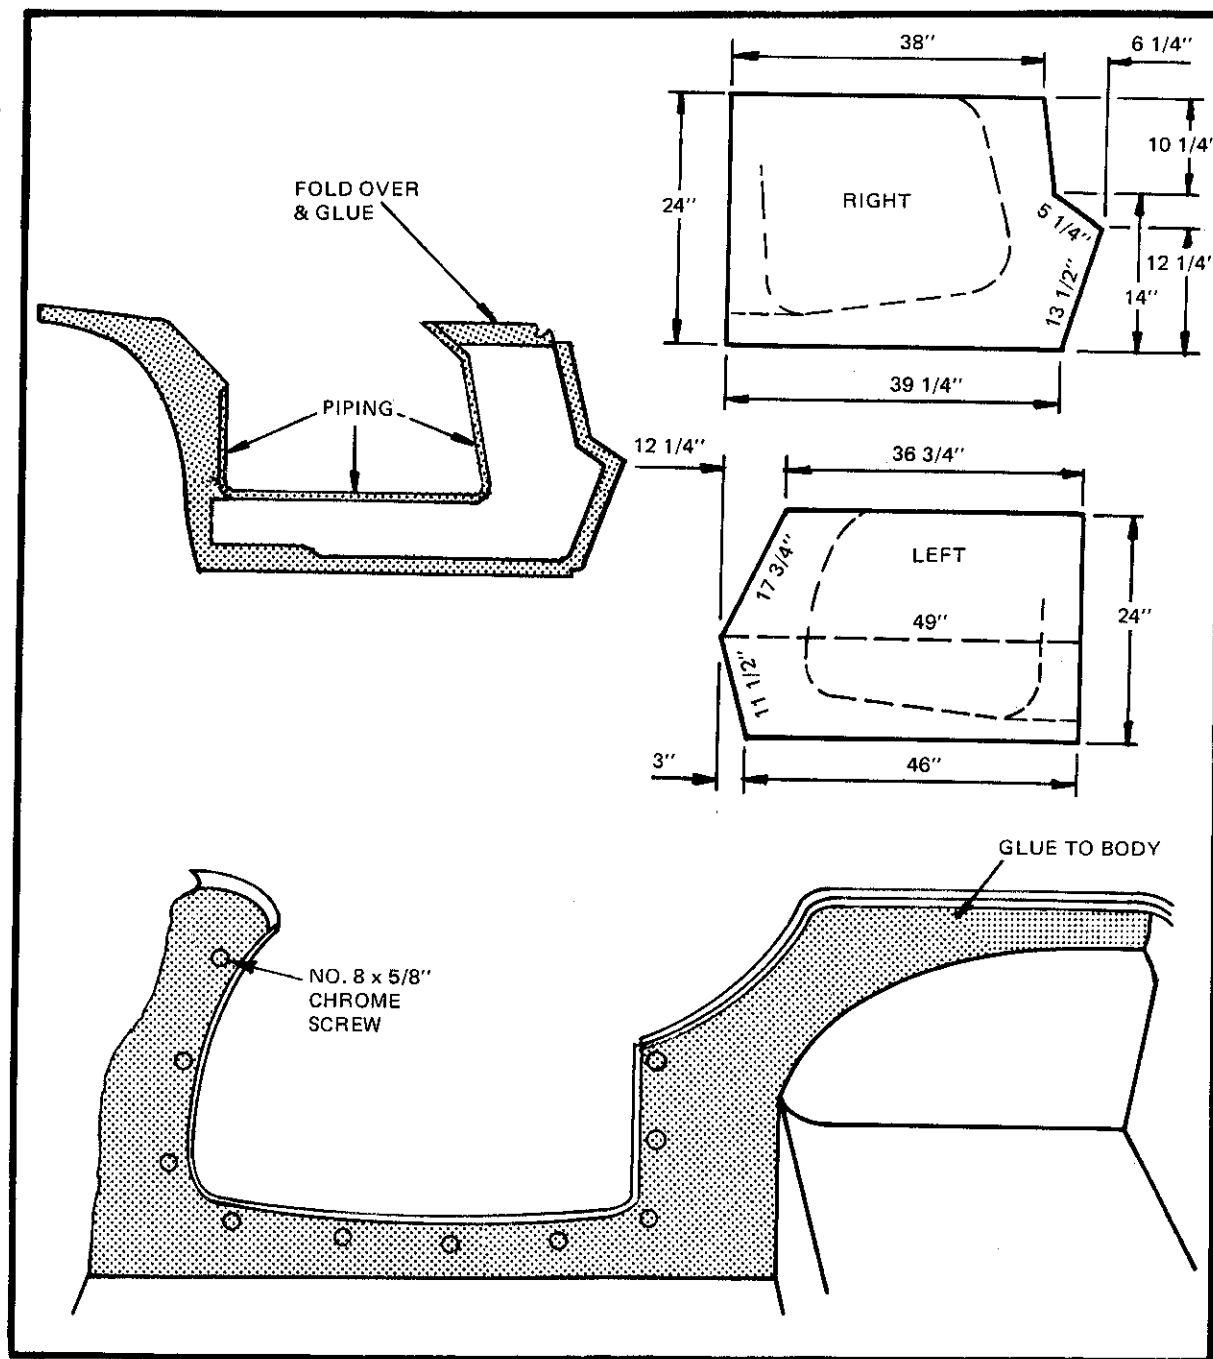

Figure 71
- ☐ Side sections fit around the door openings, extend forward to the firewall and back over the wheel hump. They must be mounted on a piece of heavy cardboard or paneling before they can be installed. This is due to the configuration of the body around the doors. As a basic pattern cut a piece of cardboard to the sizes indicated. (Figure 71)